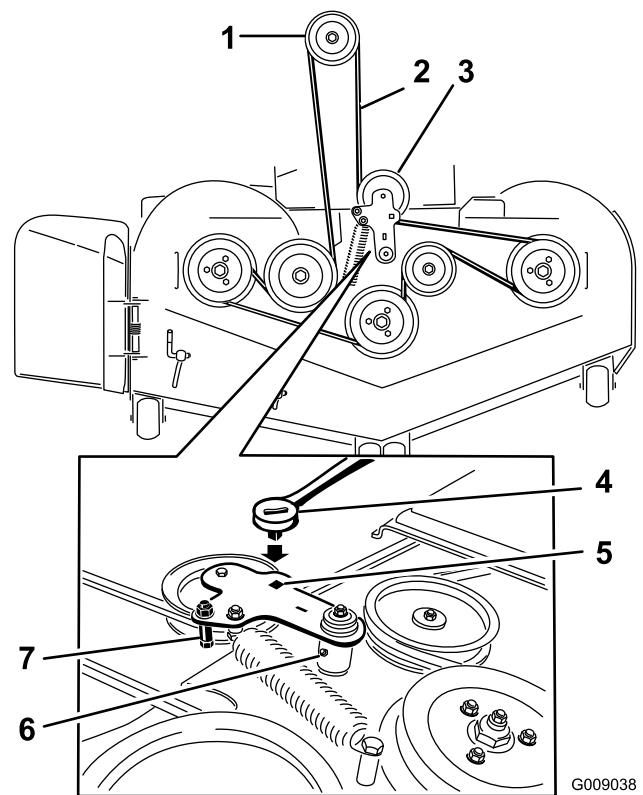

Figure 91
7. Use a ratchet in the square hole in the idler arm to remove tension on the idler spring (Figure 91).
9. Remove the belt guide on the spring-loaded idler arm (Figure 91).
11. Install the new belt around the mower pulleys and the clutch pulley under the engine (Figure 91).
12. Install the belt guide on the idler arm (Figure 91).
13. Using the ratchet in the square hole, install the idler spring (Figure 91).